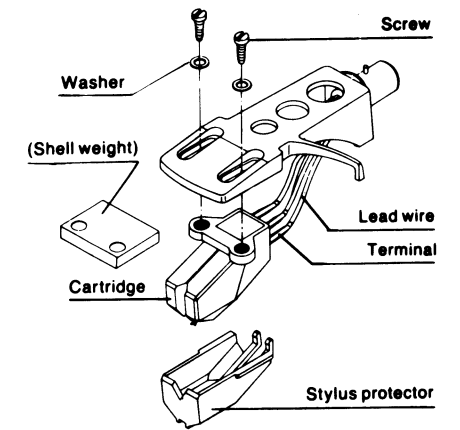

Fig. 15
- Mount the cartridge in the headshell using the screws provided with the cartridge. (Fig. 15)